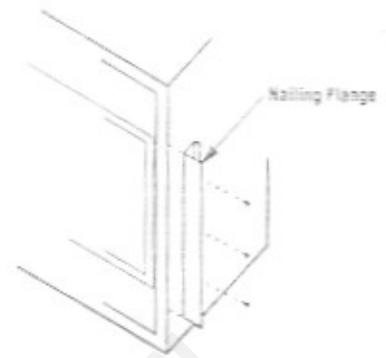

Figure 9
Step 3. Remove the nailing flanges from the lower control compartment and install in place with three (3) screws each. Align with the three holes on each side of the appliance (refer to Figure 9).